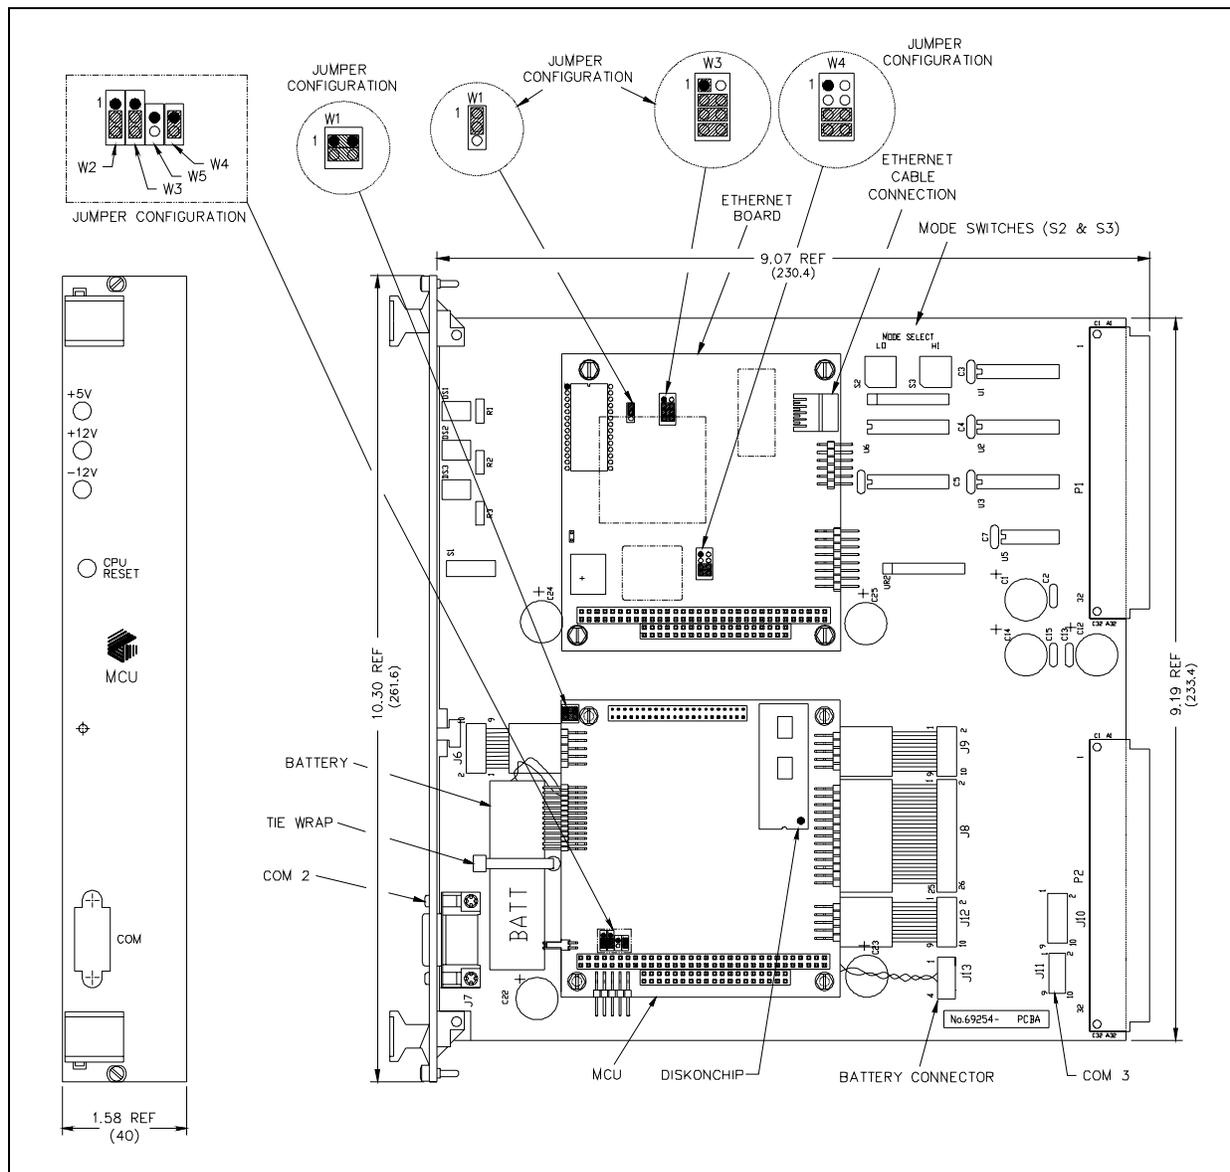

Figure 1. Model 69254-006 Master Control Unit PCBA
Refer to Figure 1 for component location and installation details.
5. Cut the tie wrap that secures the battery to the board during shipment. Refer to Figure 1.
10. Route the battery cable under the printed circuit board. Refer to Figure 1.
13. Reconnect the RJ-45 connector to the Ethernet PCBA. Refer to Figure 1. Slide the MCU card toward the rear of the card rack until it comes in contact with the connector on the backplane. Use caution to avoid pinching the Ethernet cable.